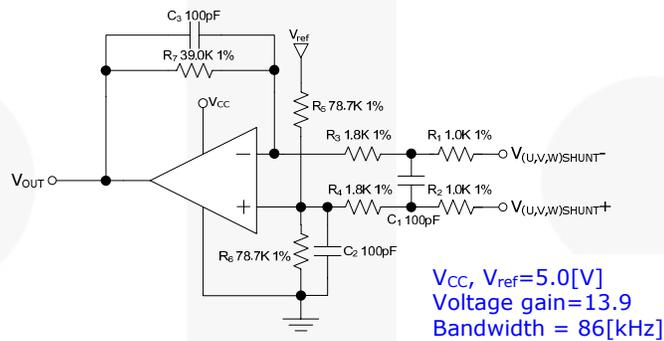
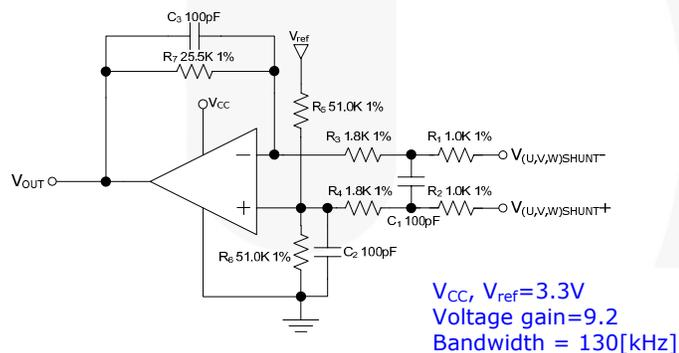
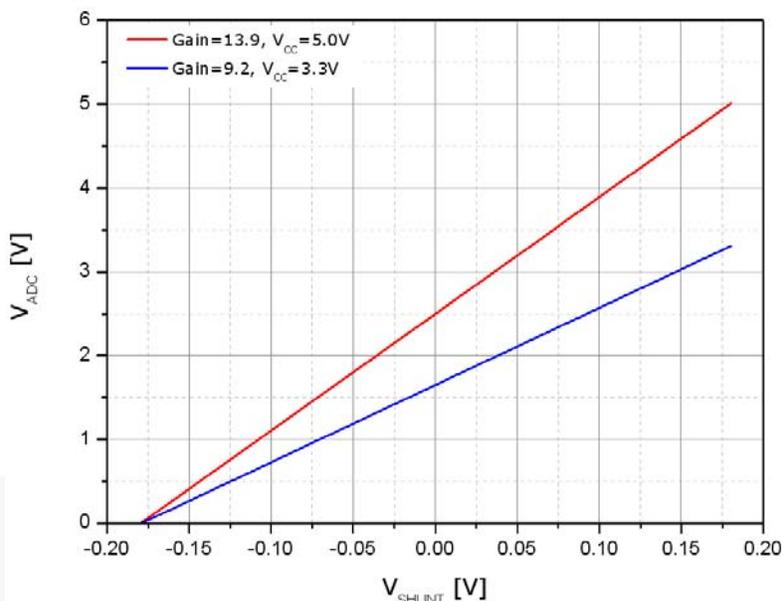

Figure 5. Application Circuit of Current Sensing ($V_{CC}=5.0\text{V}$, Voltage Gain=13.9)
Figure 6. Application Circuit of Current Sensing ($V_{CC}=3.3\text{V}$, Voltage Gain=9.1)
Figure 7. V_{ADC} (Input Voltage of AD Converter of MCU) vs. V_{Shunt} (Voltage of Shunt Resistor) in Current Feedback Circuitry (Figure 5, Figure 6)
The value of application circuit is calculated by the following equations. In Figure 5, the output voltage of op-amp (V_{OUT}) can be calculated by:
- Components value: refer to Figure 5 and Figure 6
According to calculation conditions, Figure 5, and Equations 5 and 6, the voltage between shunt resistor ($V_{Shunt,min}$, $V_{Shunt,max}$) can be calculated by:
For low control voltage systems, such as $V_{CC}=3.3V$, the same consideration can be performed on the circuit shown in Figure 6. The circuit in Figure 6 has a same performance as the circuit in Figure 5. Figure 7 shows V_{Shunt} vs. V_{ADC} according to V_{CC} variation (3.3V, 5.0V) and gain of op-amp.